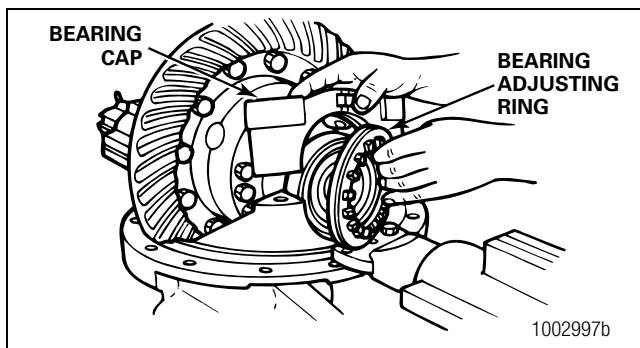

Figure 3.15
7. Remove the bearing caps and bearing adjusting rings from the carrier. Figure 3.15.